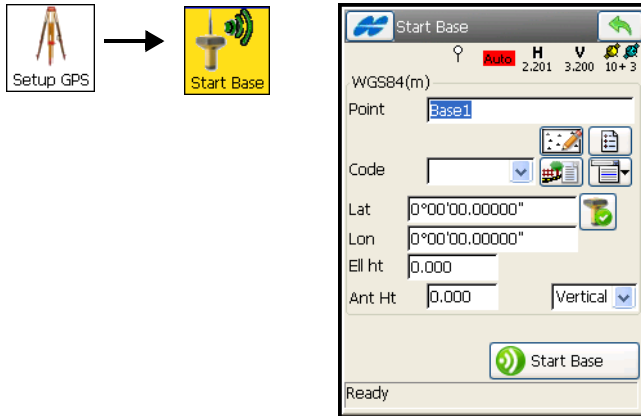

Figure 8-4. Start Base
2. Select the **Setup GPS ▶ Start Base** icons. On the *Start Base* screen, set the following information (Figure 8-4 on page 8-7):